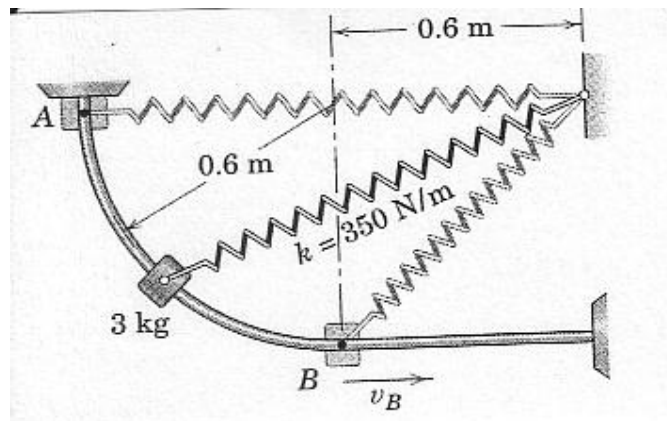

Figure Q1[a]
- Q1. [a]** The 3 kg slider is released from rest at point A and slides with negligible friction in a vertical plane along the circular rod as shown in Figure Q1[a]. The attached spring has a stiffness of 350 N/m and has an unstretched length of 0.6m. Determine the velocity of the slider as it passes point B.
- [b]** The ram of a pile driver has a mass of 800 kg and is released from rest 2m above the top of the 2400 kg pile as shown in Figure Q1[b]. If the ram rebounds to a height of 0.1m after the impact with the pile, calculate;